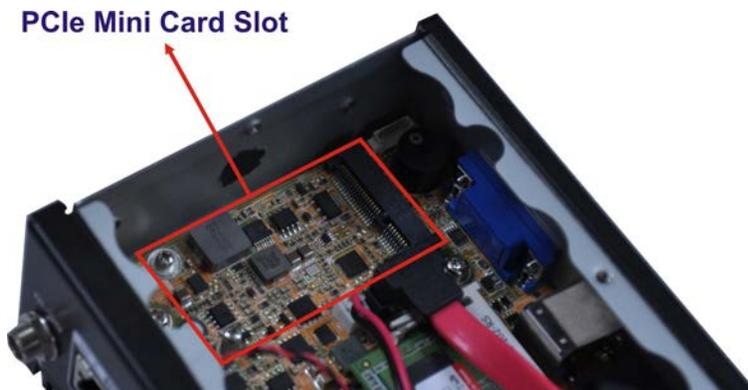

Figure 3-6: PCIe Mini Slot Location
Step 3: Locate the PCIe Mini slot (Figure 3-6).